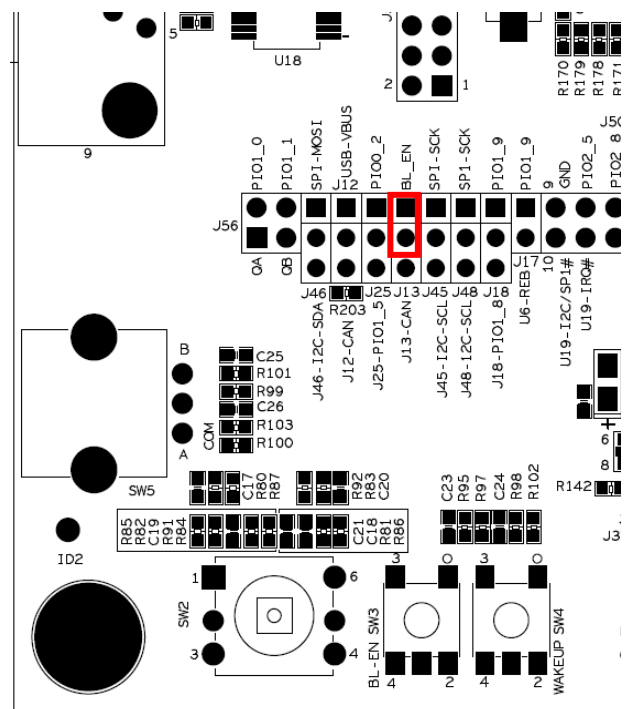

Figure 22 – Jumper Setting: Enable ISP via USB-to-UART mode, J13
- SW3 button – jumper described in section 4.6.1. You also need to make sure that the BL_EN signal is connected to PIO0_1 signal, see section 4.1.1.1 and Figure 22.
The BL_EN signal must be connected to PIO0_1 signal. This is accomplished by inserting a jumper in J13, pin 1-2 (schematic page 5). See Figure 22 for details.